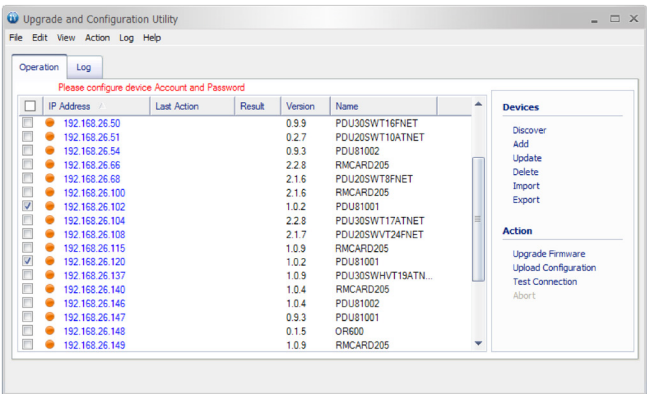

Figure 2
- Check the checkbox to select devices listed in the **Operation View** (Shown in Figure 2).